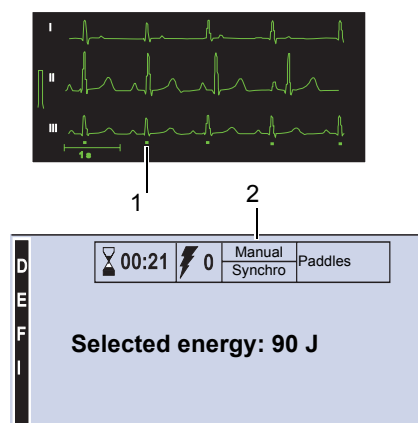

Fig. 5.8 Synchronised defibrillation
- the trigger marks (1 - Fig. 5.8) and the "QRS blip" appear